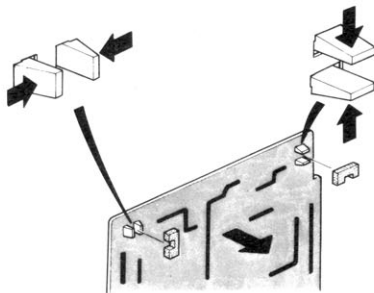

Fig. 35
- 2) Remove 2 rubber cushions, bend the pawl inside and remove the circuit board. (Refer to Fig. 35)